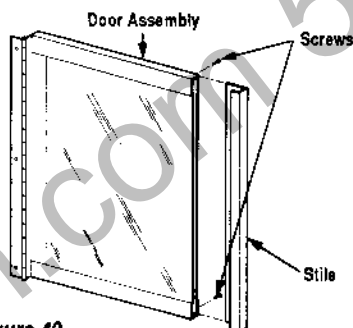

Figure 49
To remove the glass from the doors, remove the two (2) screws from the door stile, remove the stile and slide out all old glass pieces and slide new glass pane into the frame. Reassemble the end stile with the two screws previously removed (Figure 49).